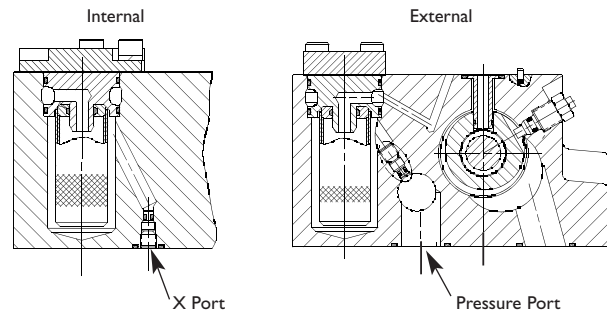

Figure 3
6. PROCEDURE TO CONFIGURE A 72 SERIES SERVOVALVE FOR EXTERNAL PILOT OPERATION (see figure 3)